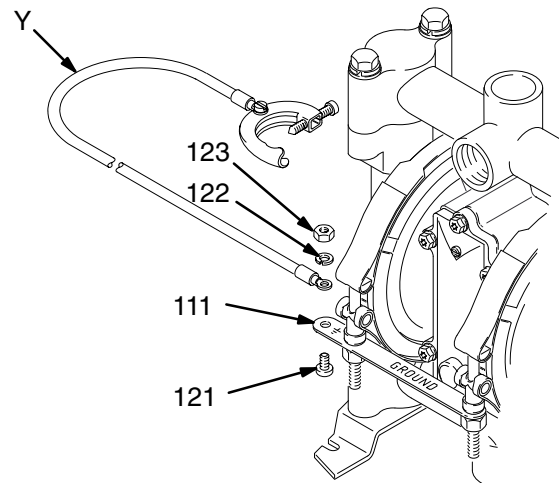

Fig. 1
- *Pump:* attach a ground wire (Y) to the grounding strip (111) with the screw (121), lockwasher (122) and nut (123), as shown in Fig. 1. Connect the clamp end of the ground wire to a true earth ground. Order Part No. 222-011 Ground Wire and Clamp.